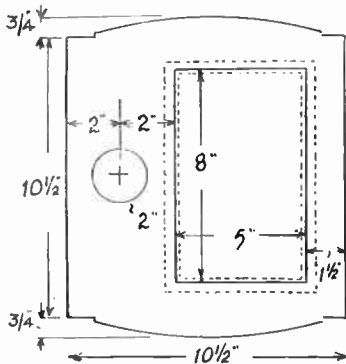

Fig. 1
nailed inside the main girders to support the planking or footboards, which are 4 ins. by 1 in. or $1\frac{1}{2}$ ins., spaced out with 1 in. between them. They are nailed direct to the top of the bearers as shown in detail Fig. 3. The whole bridge should be supported on creosoted baulks as a foundation, as shown in Fig. 1, consisting perhaps of parts of old sleepers about 9 ins. by 3 ins., let into the soil as shown.
The front of the cabinet, as we can describe it, is shown in Fig. 1. The dimensions given are for a mirror of 8ins. by 5ins. or less, but any other size larger would serve if the width and length are amended in proportion. Setting out the front can be done direct to the wood, cutting it to the full
The mirror opening is surrounded with a frame of four strips of 1/2 in. fretwood. Fit this part to overlap the edges of the opening by 1/8 in. to leave a rebate for the mirror to fit in behind, in the usual way. The frame, by the way, is indicated in Fig. 1 by dotted lines. For gluing over the lamp window to the left of the mirror, set out the pattern for an overlay on the 1/2 in. wood, shown at (A). Cut this out, and glue in position.